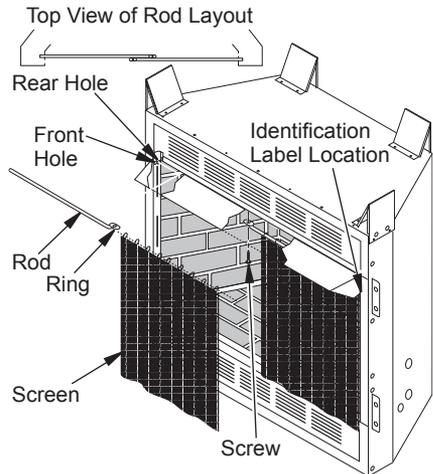

Figure 19 - Installing Fireplace Screen (Model May Vary From Illustration)
3. Insert first rod into rear hole in left side of firebox. Fasten rod to rear hole near center of firebox using #10 x 3/8" Phillips screw provided (see Figure 19).